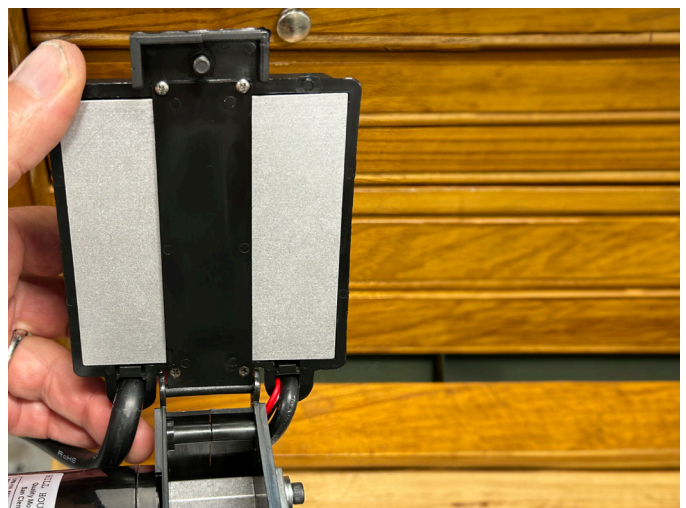

FIGURE 3
- B. Flip the housing up (see Figure 3).